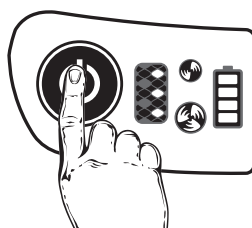

fig.11b
- Change the airflow by pressing the button briefly (see Fig. 11b).